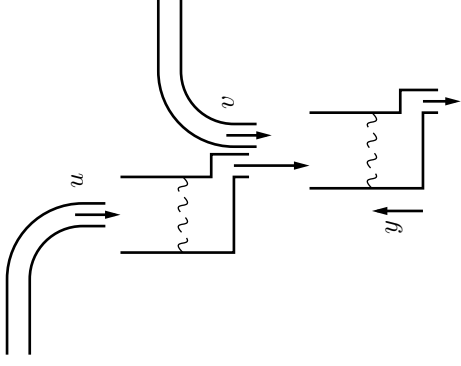

Figure 6.13a
6.13 Consider the connected tank system in Figure 6.13a where  $u$  is the inflow to the upper tank and  $y$  is the level in the lower tank. The system can approximately be described by the following transfer function